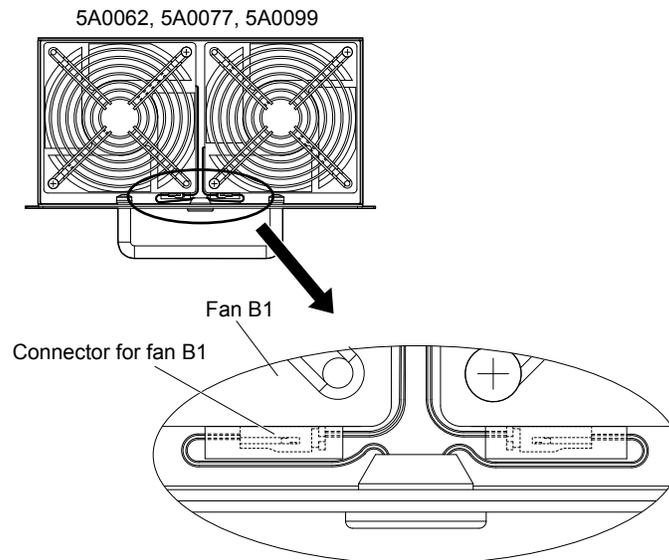

Figure 2.18 Cooling Fan Wiring: 5A0062 to 5A0099
2. Place the fan connector covered by the tube as shown in Figure 2.18.